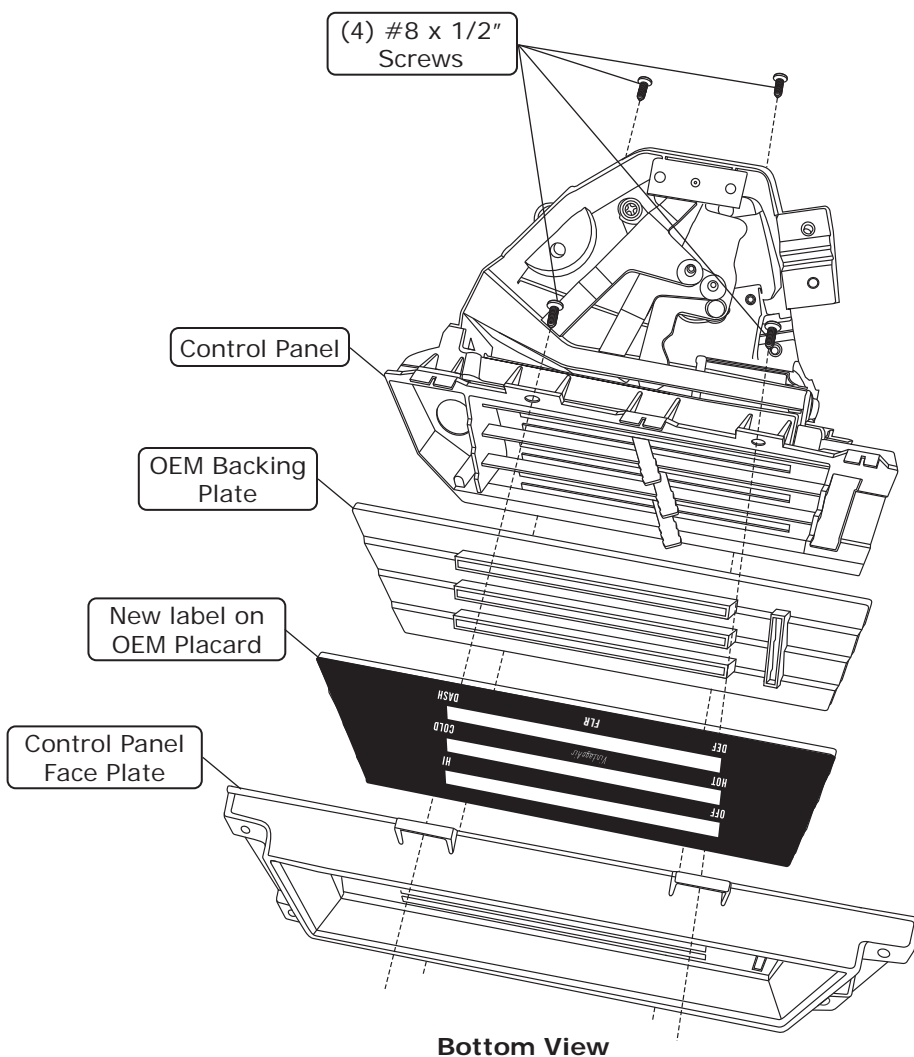

Figure 1
1. Install the alignment pin into the modified upper control arm along with the (2) arms previously pushed aside. Install the rectangular plate at the rear of the control panel frame (See Photo 1, below).
2. Secure the control panel face plate to the control panel using (4) # 8 x 1/2" screws (See Figure 1, below). Install the control knobs onto the control panel.